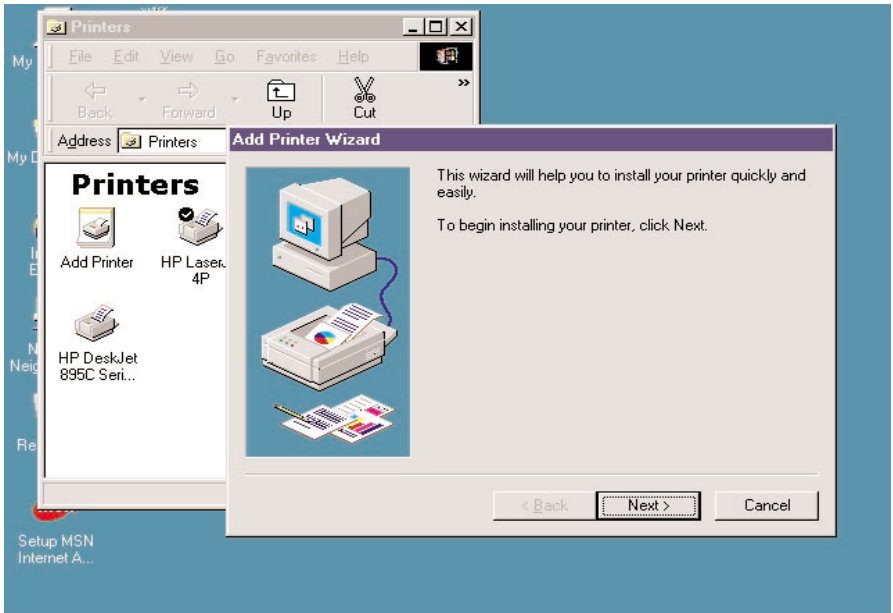

Figure 4-13. Add Printer Wizard screen.
2. Double click on **Add Printer**. Figure 4-13 appears.